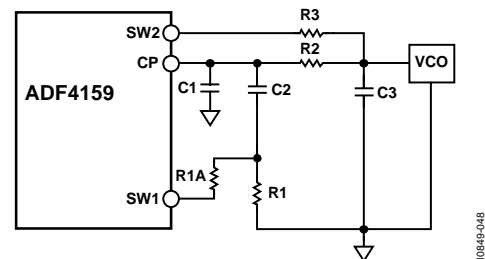

Figure 54. Fast Lock Loop Filter Topology 2
- Connect an extra resistor (R1A) directly from SW1 (see Figure 54). The extra resistor must be selected such that the parallel combination of an extra resistor and the damping resistor (R1) is reduced to $\frac{1}{4}$ of the original value of R1.